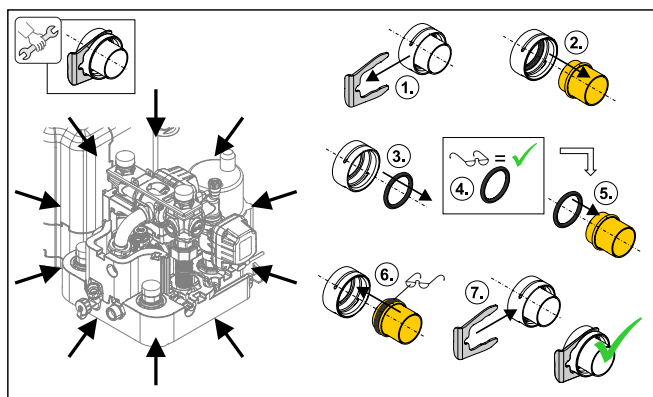

Fig. 4-18 Hydraulic system plug connectors
- Always place O-rings on the part to be inserted after disassembly or before assembly (see Fig. 4-18).